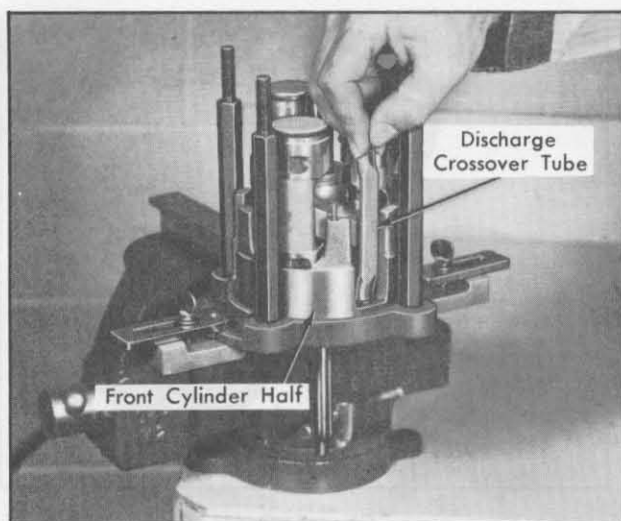

Fig. 1-89 Installing Discharge Crossover Tube
8. Install new discharge cross-over tube in front cylinder half with bridged surface facing outboard, Fig. 1-89. Make certain that end of tube is properly centered in hole in front cylinder half.